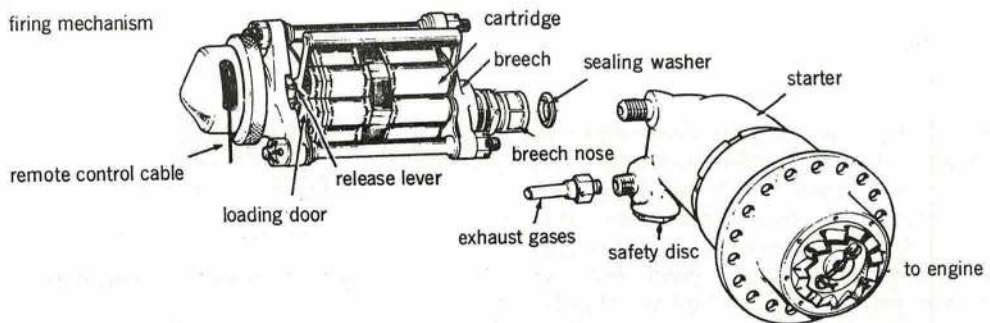

Fig 1.9.3 Cartridge starter
14. **Breech.** The cartridges are held in a revolving magazine which consists of cartridge barrels held between two end plates (Fig 1.9.3). This barrel assembly is carried in the two end frames of the breech assembly. One end frame contains the firing mechanism and the other forms the port transferring the combustion gases to the starter. The firing mechanism can be electrically or percussion operated. When electrical firing is used, a safety device is incorporated to ensure the cartridge cannot be fired either when selecting a fresh cartridge or when the barrel is not correctly positioned.